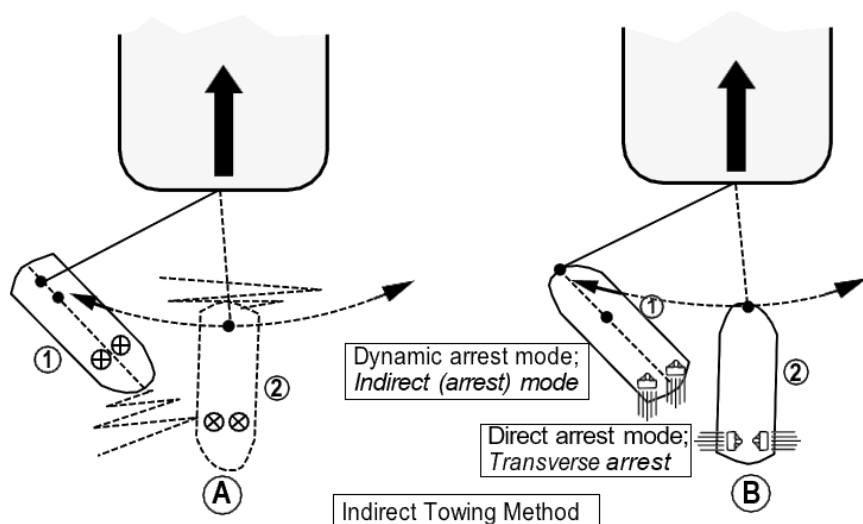

Figure 7. Indirect towing: VSP tug (A) shown left and ASD tug (B) shown right.
- **Indirect towage** – this is where it is planned for the tug to assist steering a ship, normally around a known and agreed navigational mark, say a tight bend in a channel. The tug would use its propulsion to steer the tug away from the general direction of heading to create drag, and thus increase towline force. The tug would normally skate over to approximately 45° from the ship's heading. This can generate high towline forces (see Figure 7)